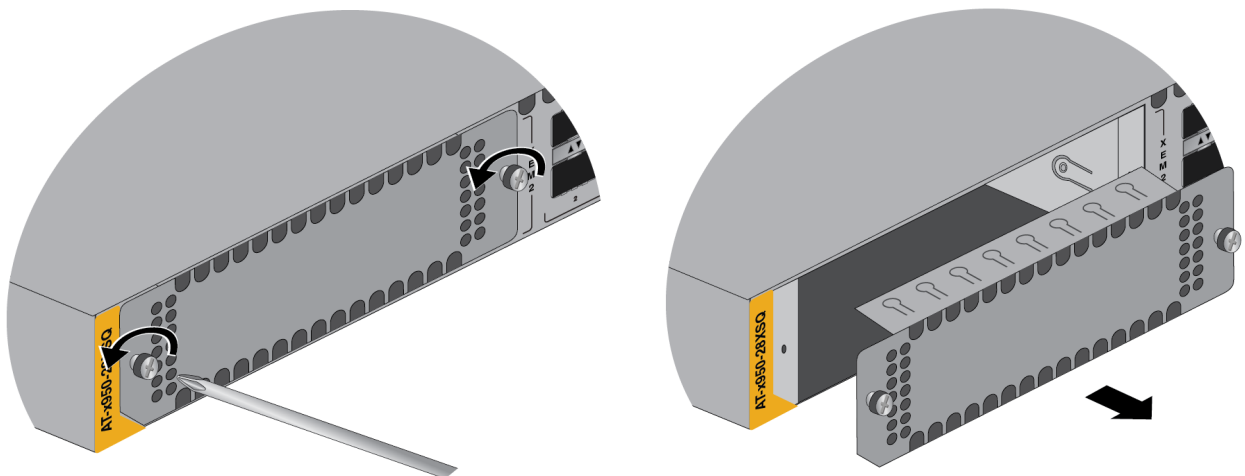

Figure 54. Removing the Blank Line Card Cover
1. Using a #2 Phillips-head screwdriver, loosen the two captive screws on the blank expansion slot panel and remove it from the switch. Refer to Figure 54.